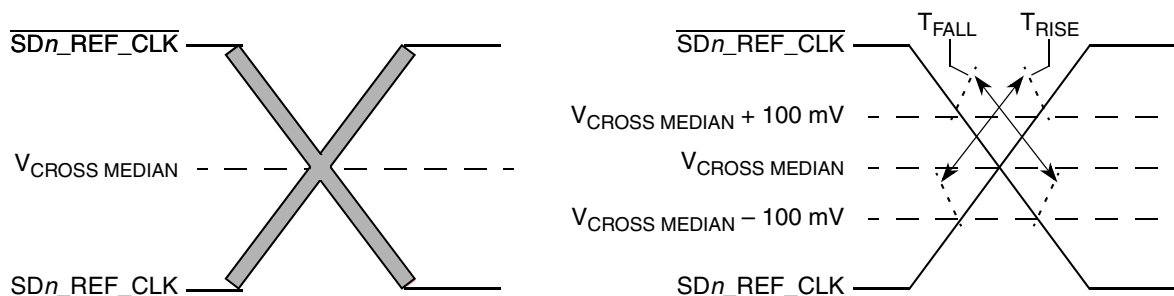

Figure 50. Single-Ended Measurement Points for Rise and Fall Time Matching
- Matching applies to rising edge rate for SDn_REF_CLK and falling edge rate for SDn_REF_CLK . It is measured using a 200 mV window centered on the median cross point where SDn_REF_CLK rising meets SDn_REF_CLK falling. The median cross point is used to calculate the voltage thresholds the oscilloscope is to use for the edge rate calculations. The rise edge rate of SDn_REF_CLK should be compared to the fall edge rate of SDn_REF_CLK , the maximum allowed difference should not exceed 20% of the slowest edge rate. See Figure 50.